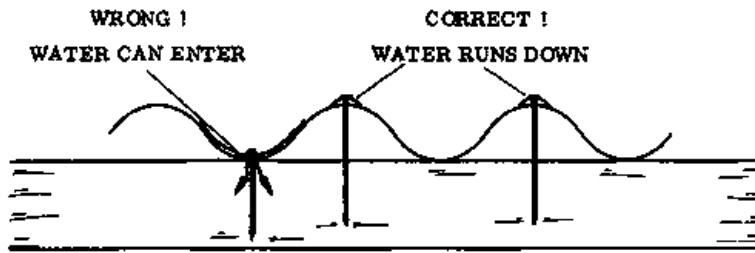

Fig. 1
- **NAILING:** When you nail corrugated roofing sheets to purlins, always nail through the top of the corrugation. This is so that rain will tend to run away from the nail (Fig. 1).